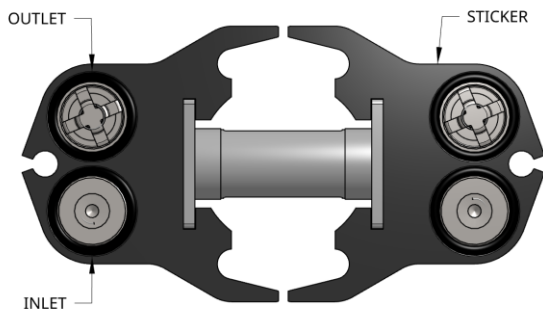

Figure 7
- Adjust plunger slot position towards center and have slot facing work surface. Replace all valves, o-rings, and white washers. Refer to figures and video for proper orientation. **IMPORTANT:** It is imperative the alignment of OUT/IN ports coincide with valves as indicated in Figure 7.